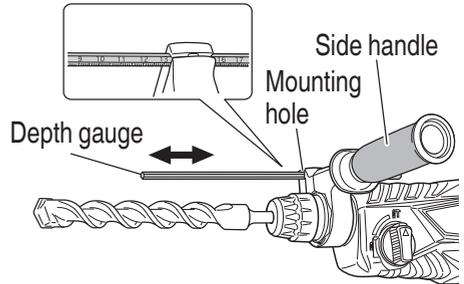

Fig. 11
6. Using depth gauge (Fig. 11)